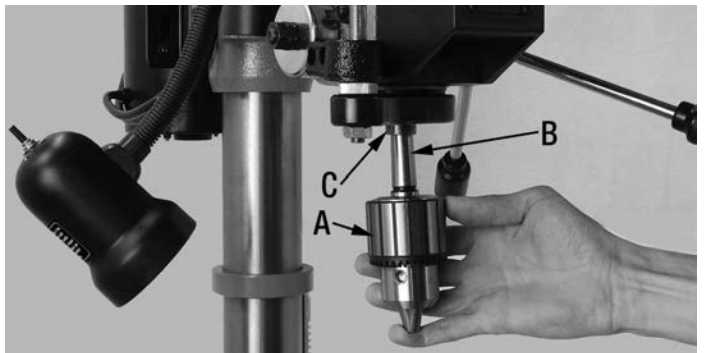

FIGURE 11
- 2) Locate the 5/8” chuck (A) Fig.11 and arbor (B). Insert the arbor into the chuck opening.
- 3) Push the chuck and arbor assembly up into the drill spindle (C) as far as they will go. Turn chuck and arbor assembly until it completely enters the spindle.